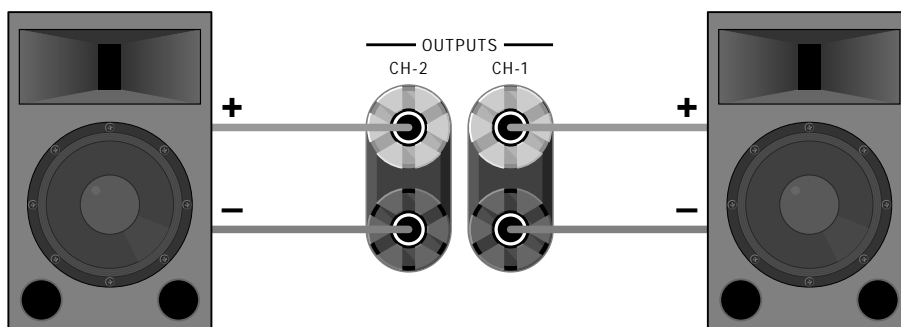

Fig. 2.5
6. **Connect the outputs** of the *K-Series* amp to your loudspeakers. If the Bridge Output switch is turned OFF, connect the positive (+) and negative (-) leads of each loudspeaker to the appropriate Channel 1 and Channel 2 output connectors as shown in Figure 2.5.